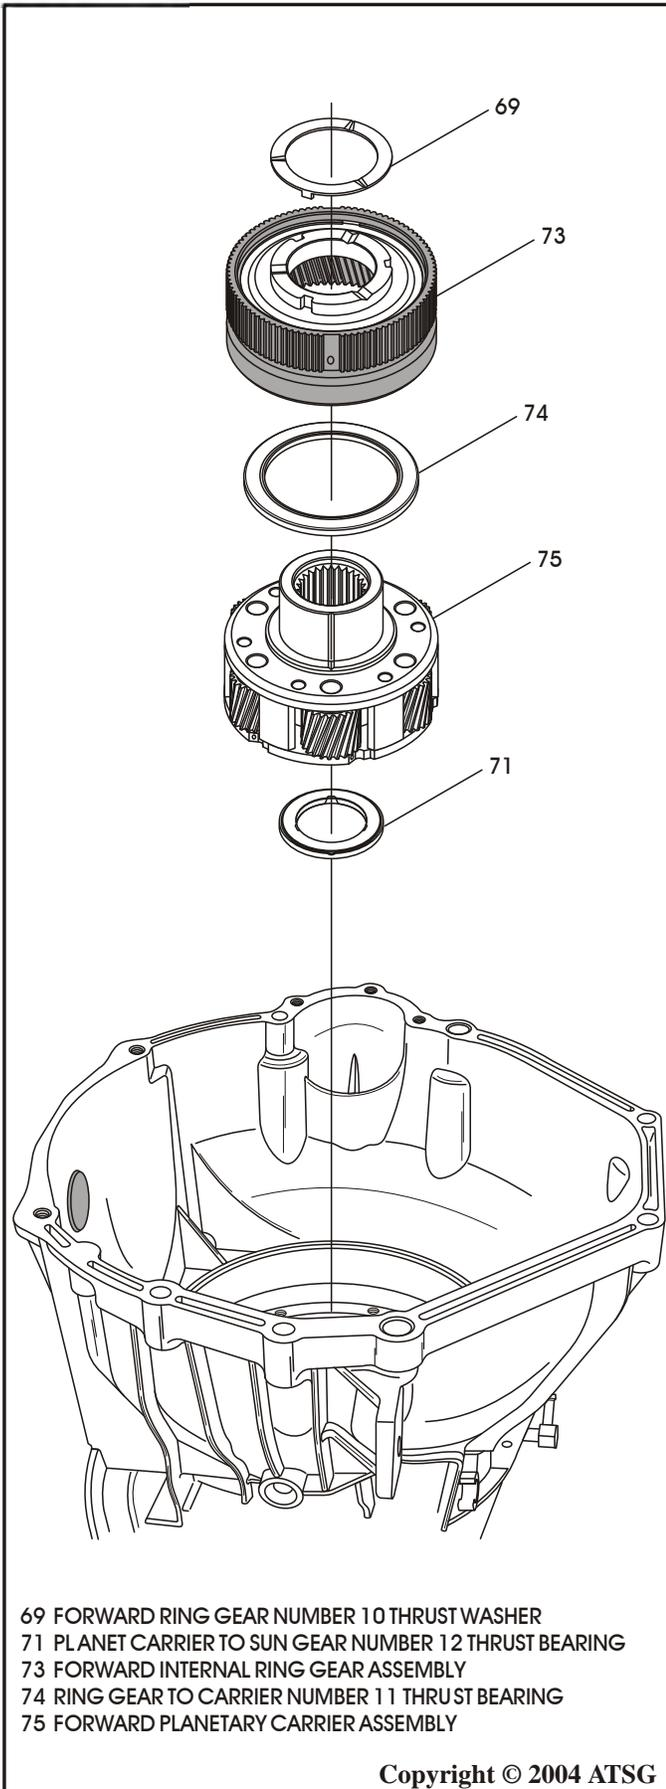

Figure 45
44. Remove the forward ring gear and number 10 thrust washer, as shown in Figure 45.
45. Remove the forward planetary carrier assembly and the number 11 thrust bearing, as shown in Figure 45.
46. Remove the carrier to sun gear shell assembly number 12 thrust bearing (See Figure 45)